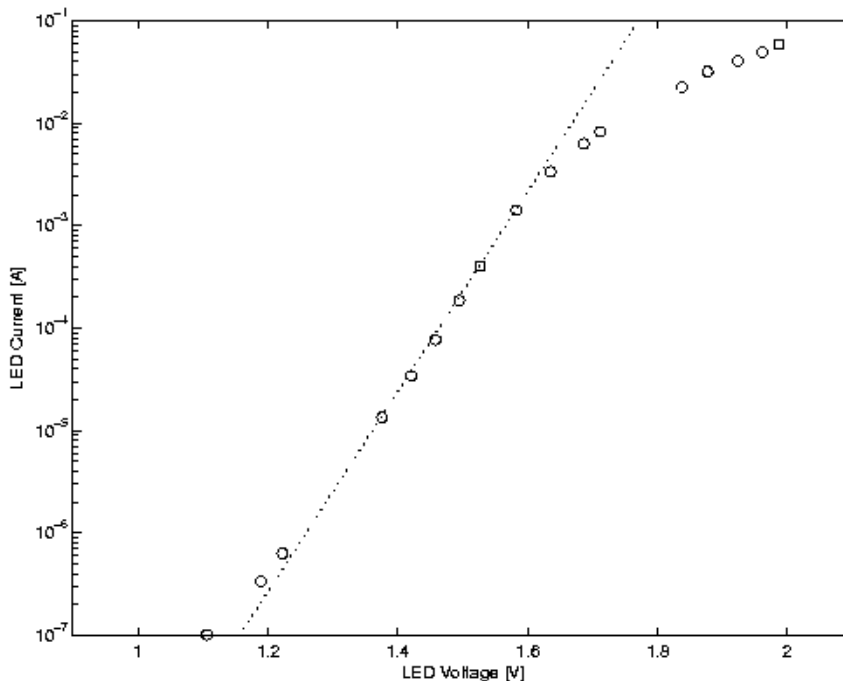

Fig. 5. Measured LED V-I characteristic, comparison to exponential model prediction.
To compare the data to the exponential characteristic of Eq. (1), it is more useful to plot the data from Table 1 on a semilog plot, as shown in Fig. 5.
As can be seen from the figure, the measured data follow the theoretical prediction of Eq. (1) quite well for moderate currents, over a range of 100nA to 1mA. The dashed line in Fig. 5 represents the prediction of Eq. (1) with parameters $I_s=4.97E-19$ and $n=1.75$. These were obtained with a "least squares" fit to the measured data points over that region.
For higher currents, it can be seen from Fig. 5 that the measured data deviates significantly from the prediction of Eq. (1). The reason is that a real LED has a series resistance R_s , which contributes a voltage drop $i_D R_s$ that is not accounted for in the prediction of Eq. (1). This additional drop is not significant at low currents, but at high currents causes the deviation seen in Fig. 5.